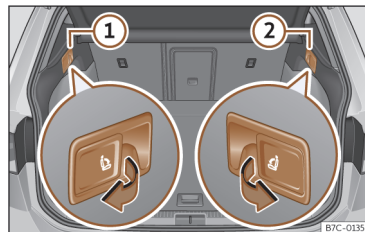

Fig. 77 In the luggage compartment: levers to unlock the rear backrest.
- Pull the remote release lever of the left >>> **Fig. 77** ① or right ② parts of the backrest in the direction of the arrow. The released part of the rear seat backrest is folded automatically down and forwards.